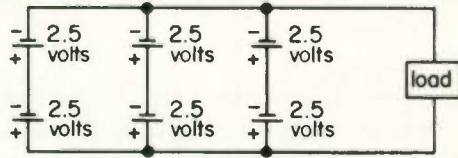

Fig. 33(a)
6. The cells in the battery circuit of Fig. 33 are connected in (a) SERIES PARALLEL. The battery voltage is (b) 5 VOLTS. Each cell in this battery has a life of 25 hr when delivering a 1-amp current continuously. This battery will deliver a 1-amp current continuously for approximately (c) 75 hours.
7. Connect up the cells in Fig. 33(b) in accordance with the schematic diagram of Fig. 33(a).